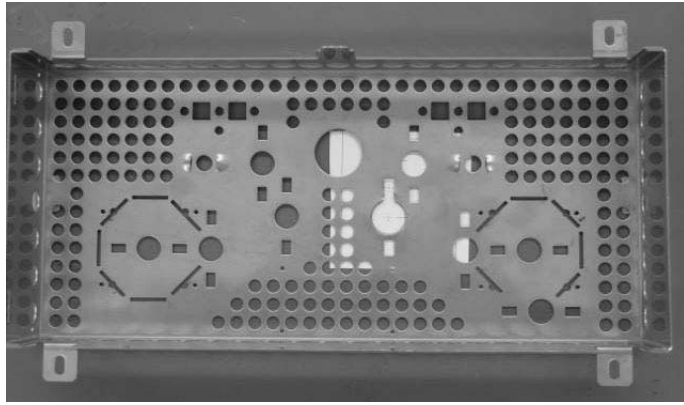
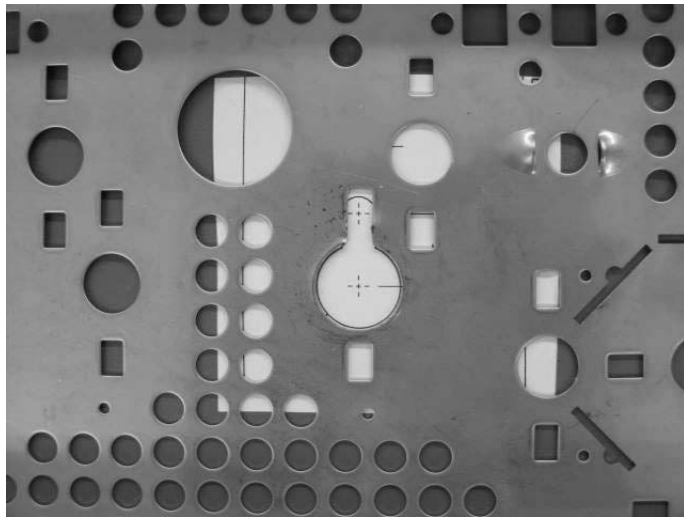

Figure 2 Cutting Template and the Thermo Cassette
Figure 3 The Cutting Template and the Thermo Cassette (Detail)
- If the Thermo Analog Input Board (Thermo PN 19050153) is used, then the spade lugs from the Generic Signal Cable should be cut and 4-5 mm of insulation should be stripped. Screw connect the wires to the Thermo board as shown in Figure 2. The black wire should be connected to “0” input on the Thermo Board and the red wire should be connected to the “10V” input.
- Use the hole pattern template from the *Operation and Maintenance Manual* to align cutting tools (see Figure 2 and Figure 3).